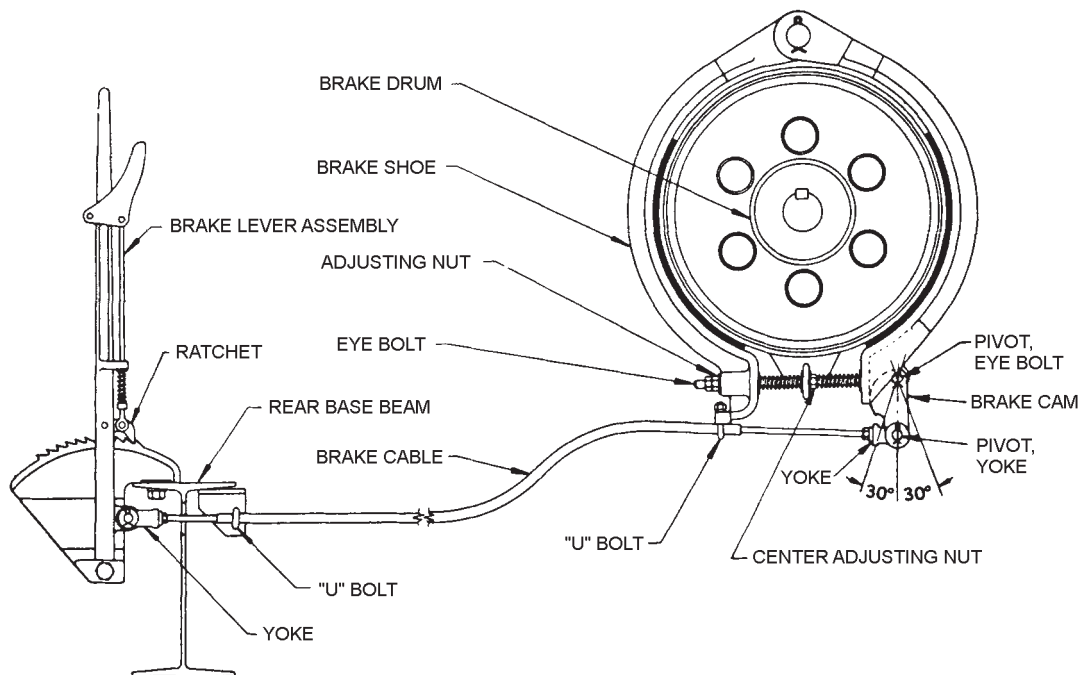

Figure 14
Our 57D and smaller units are shipped with the type “A” brake (Figure 14). This is a shoe type brake also equipped with two adjusting nuts for independent lining adjustments.
### 5.7.2 Type "A" (Figure 14)
- (1) Adjust the position of both brake shoes by moving both adjusting nuts until both linings just clear the drum.
- (2) Attach the brake control assembly to the base.
- (3) Attach the brake cable to the base or hi-prime bracket using the U-bolt provided.
- (4) Move the brake control lever forward to locate the pin hole on the lever between the yoke on the end of the brake cable. Install the pin and cotter pins.
- (5) When the brake is disengaged, the pivot yoke of the cam should be at about a 30 degree angle to the right (see Figure 14). Simultaneously, the brake lever would be “full off”, to the right of vertical.
- (6) When the brake is fully engaged, the lower end of the cam would be vertical or up to a 30 degree angle to the left (see Figure 14). Simultaneously, the brake lever has the ratchet engaged and several notches still “available” for engagement.
- (7) To achieve the proper engaged and disengaged positions of the cam and brake lever, either or both yokes can be adjusted in or out on the ends of the brake cable.
- (8) Be certain the rod end does not bottom out on the cable cover when engaging or disengaging the brake. When the yoke positions are established, tighten the jam nuts against the yokes.
- (9) Make sure the brake drum key is tight.
- (10) Set the brake before continuing with unit installation.